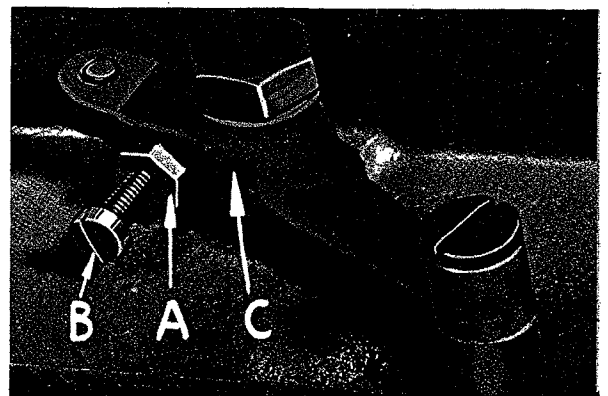
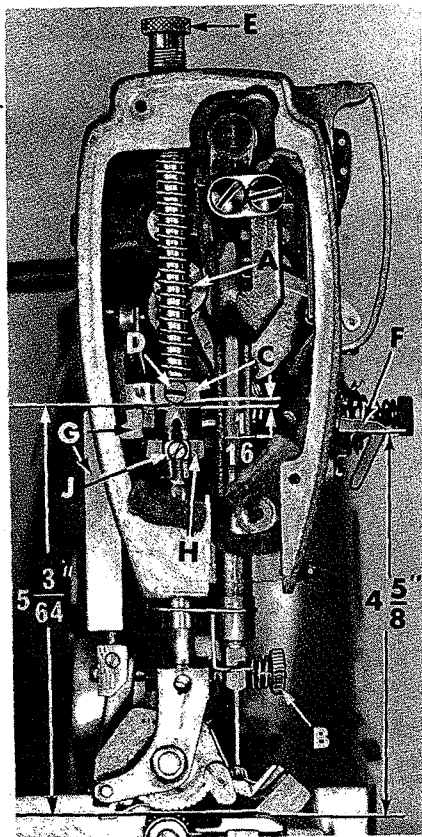

Fig. 16
Fig. 17
The presser spring (A, Fig. 17) should exert only enough pressure on the feed rollers to make the work feed uniformly. To increase the pressure on the presser foot, turn presser spring regulator (B, Fig. 17) in a clockwise direction. Turning the regulator counterclockwise decreases the pressure.
When locating presser bar guide (C, Fig. 17) presser foot must rest directly against throat plate. Proper setting of guide is $5 \frac{3}{64}$ inches between underside of presser bar guide and the top of throat plate (Fig. 17). To obtain this setting, remove pressure from presser spring (A) and loosen set screw (D). Tap on presser foot to insure it is down against throat plate. Set guide to the $5 \frac{3}{64}$ inch dimension, center foot by turning it so needle enters the middle of its slot and retighten screw (D). Apply pressure to top feed roller by turning regulator (E) clockwise.
Set needle thread pull-up bracket (F) so that underside of wire is $4 \frac{5}{8}$ inches above throat plate (Fig. 17).
Presser bar connection (G, Fig. 17) should be set about $1/16$ inch below presser bar guide (C). Accomplish this by loosening lock nut (A, Fig. 16), and relocating stop screw (B) on lifter lever bell crank (C), located at the back of machine, under bed plate. Turning stop screw to right or left, properly sets presser bar connection. Tighten lock nut (A) to lock stop screw.
Tension release should be set so as not to release when sewing over seams or when presser foot is raised. Adjustment of tension release cam (H, Fig. 17) and in and out position of tension assembly are required for proper operation.
The tension release cam (H, Fig. 17) should now be positioned by loosening set screw (J) and then raising or lowering cam (H) to suit the sewing conditions. The average release point is between 1/4 and 5/16 inch of presser foot lift above the throat plate. Tighten tension release cam set screw securely.